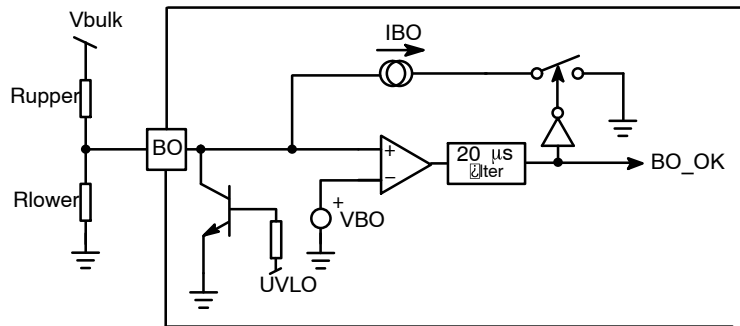

Figure 35. The Internal Brown-out Input Configuration
designed bulk voltage level would result in current overstress of converter primary power stage. The NCP1398 offers Brown-Out input (BO) that allows for precise bulk voltage turn-on and turn-off levels adjustment. The internal circuitry, depicted by Figure 35, offers a way to observe the high-voltage (Vbulk) rail. A high-impedance resistive divider made of Rupper and Rlower, brings a portion of the Vbulk rail to BO pin. The Current sink (IBO) is active below the Vbulk turn-on level. Therefore, the turn-on level is higher than the one given by the division ratio of resistive divider. To the contrary, when the internal BO_OK signal is high, i.e. application is running, the IBO sink is disabled. The Vbulk turn-off level is thus given by BO comparator reference voltage and resistor divider ratio only. Advantage of this solution is that the Vbulk turn-off level reaches minimum error. This error is given only by VBO reference and resistor divider precisions and is not affected by IBO hysteresis current tolerance. The NCP1398 thus allows better resonant tank optimization.